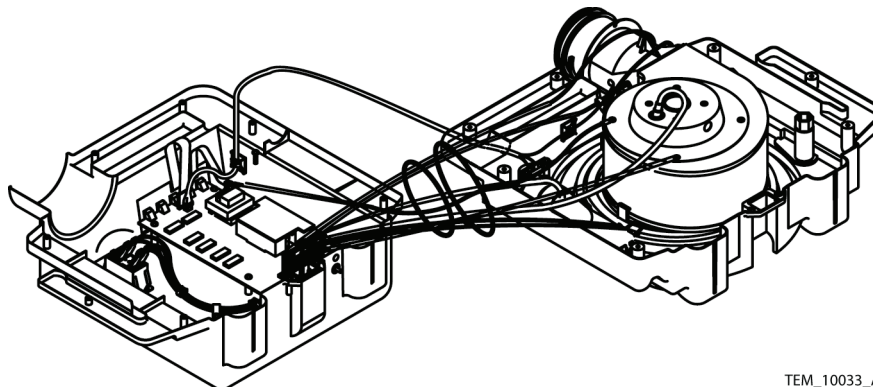

Figure 18. Separated Covers
7. Carefully separate the front and rear covers. See Figure 18.